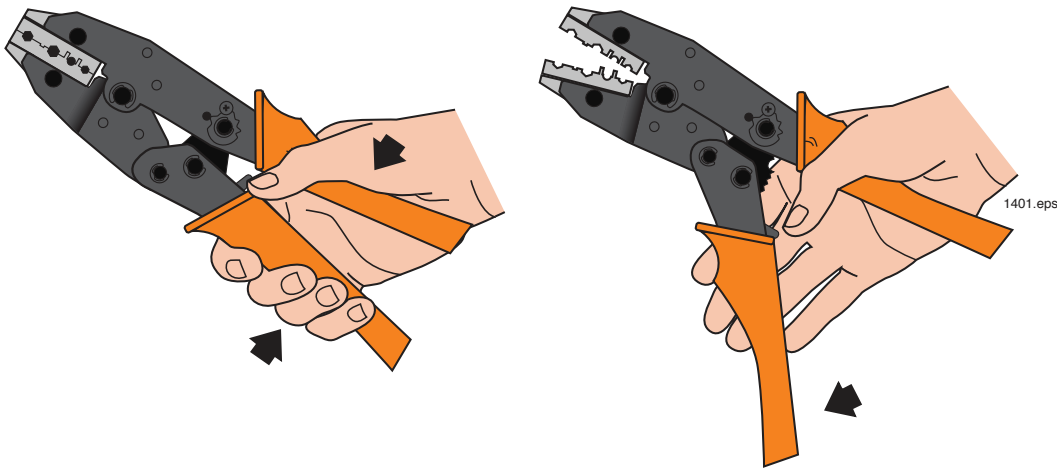

Figure 16. Proper grip of the crimper and tool in its open position.
12. You will use the 0.128 inch hex hole in the jaws of the crimping tool to crimp the ferrule onto the fiber cable. It is the smallest of the holes in the jaws that have six sides. If the crimping tool jaws are not fully open, slowly squeeze the handles until the jaws fully close. Continue squeezing until the latch mechanism releases, allowing the jaws to open completely as shown in Figure 16.